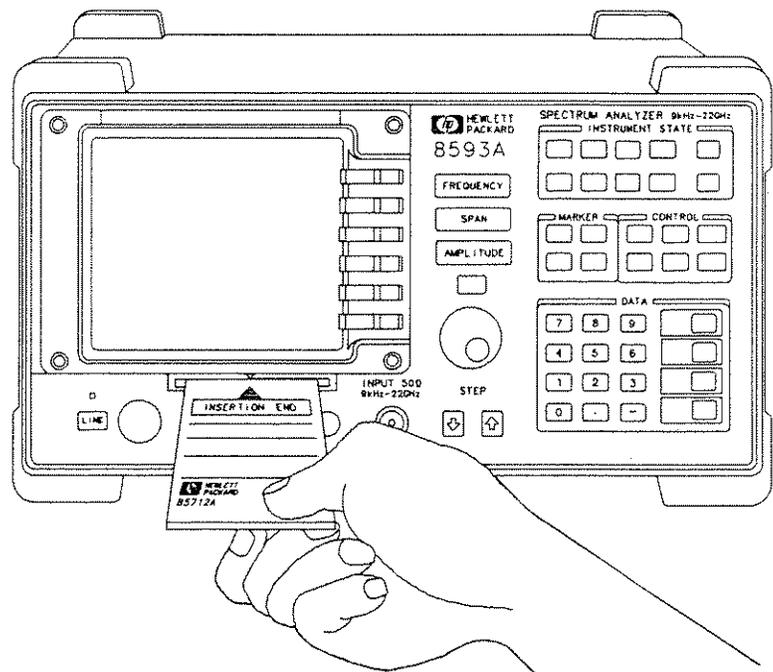

Figure 2-1. Inserting the Card
2. Insert the card into the spectrum analyzer with its arrow matching the raised arrow on the bezel around the card-insertion slot. See Figure 2-1.